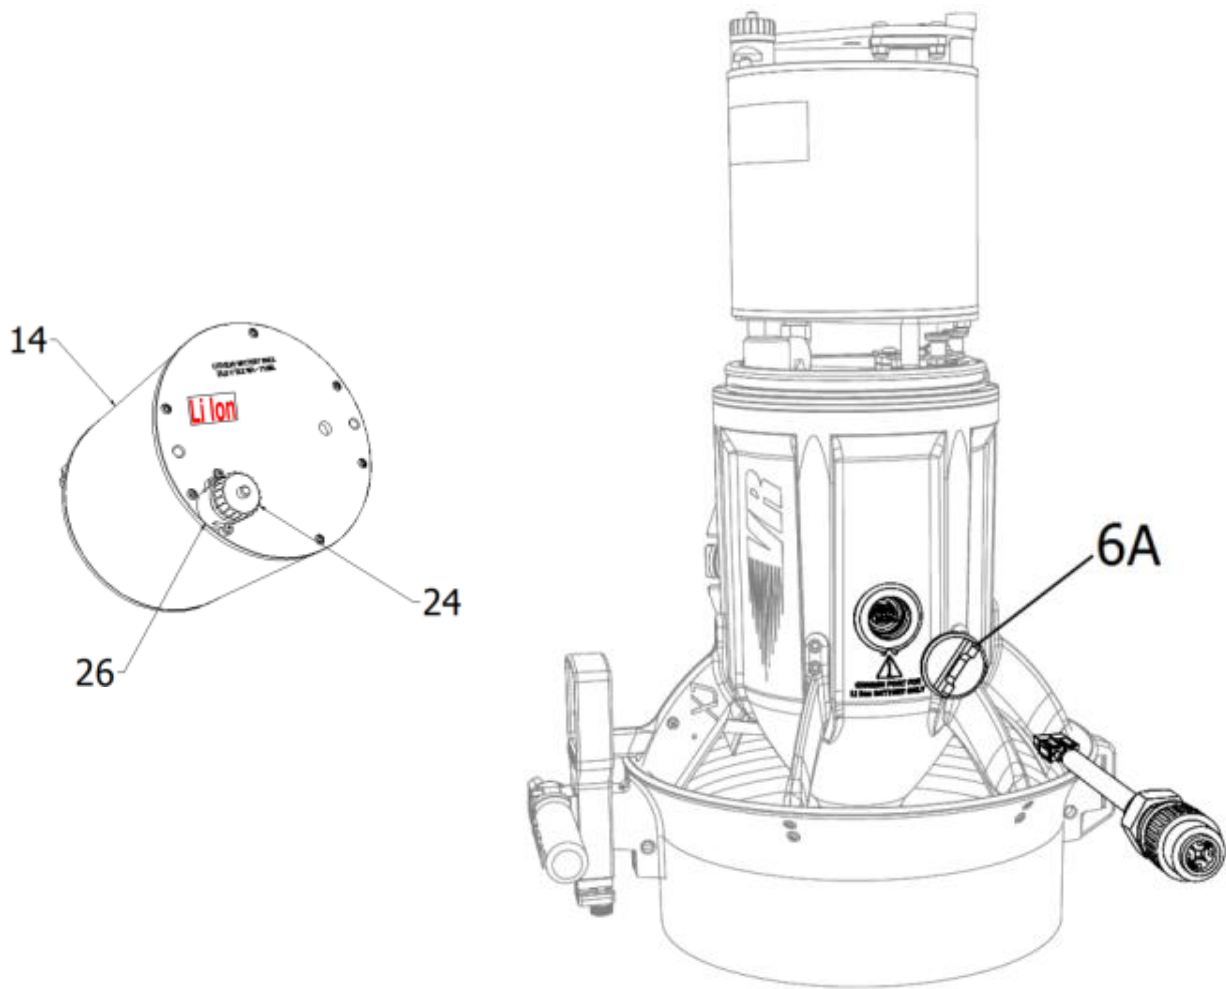

Fig.1
Main battery components (fig.1) are:
Unscrew the plug of the charging connector (24) (fig.1);
- remove the cap (6A - Fig.1);
At the end of the charge and before each dive, make sure that the cap (6A - Fig.1) is closed correctly (**HAND TIGHTEN WITHOUT FORCE**).